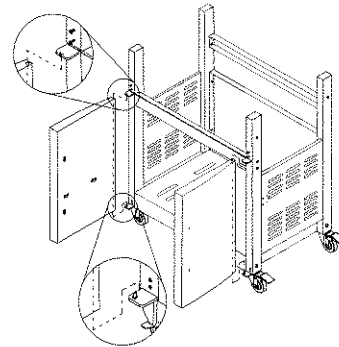

Figure 8
3. Attach door handles to door panels by using  $\frac{5}{32}$ " x 10mm philips head screws. Attach condiment rack to right door. (Fig.8)